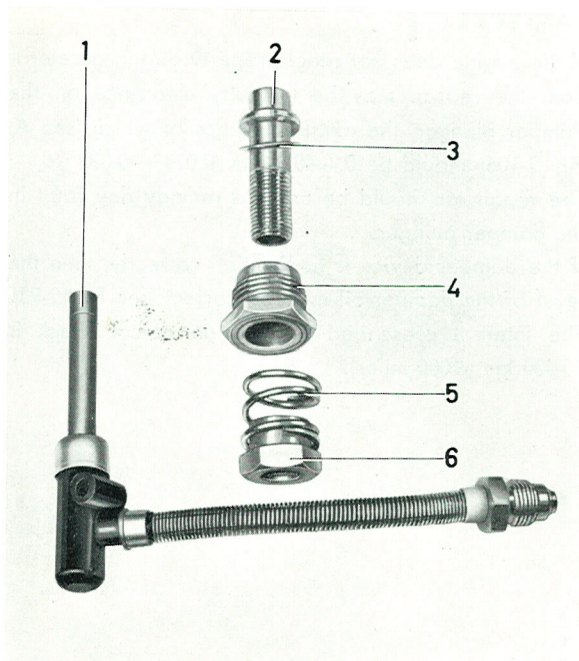

Fig. 2-112. Jet dismantled
- Fit the spring, adjusting nut and jet, see Fig. 2-112. Connect the link.